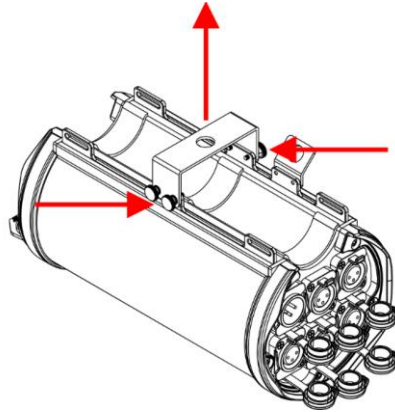

Fig. 07
- 01) Loosen the **mounting bracket screws (17)** and remove the **mounting bracket (15)**, as shown in Fig. 07.